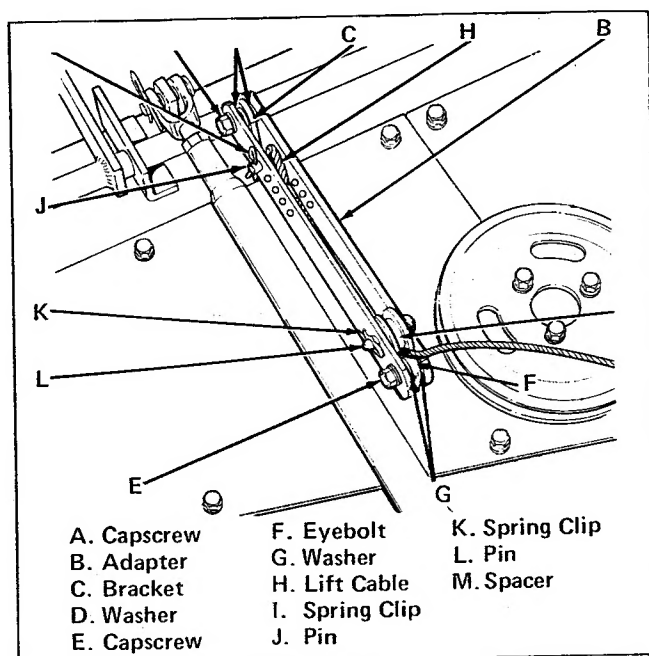

Figure 42. Mower Adapter
1. Remove capscrew (item A, figure 42) and install adapter (item B) on mower mounting bracket (item C). Place one washer (item D) on each side of mounting bracket. Secure adapter to bracket with capscrew.